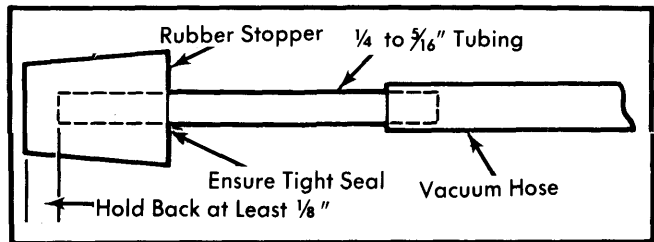

Fig. 1 Air Evacuator Tool
**Devac System** – Fabricate an air evacuator tool as shown in Fig. 1. Make sure that fluid level is correct, raise front of vehicle so wheels are off ground and support. Remove coil wire, crank engine and recheck fluid level while turning wheels from side to side. Replace coil wire, insert tool into pump filler and apply vacuum from vacuum pump. DO NOT use engine vacuum. Maintain for 3 minutes with engine idling, recheck fluid level, and apply vacuum again. Cycle steering lock-to-lock every 30 seconds for 5 minutes. Remove tool, check fluid level and add if necessary, lower car.